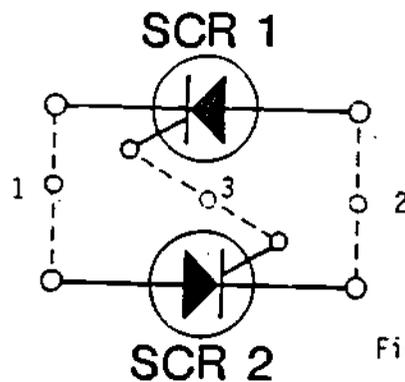

Figure 27
②B. A triac may be formed by connecting two SCRs as shown in Figure 27.